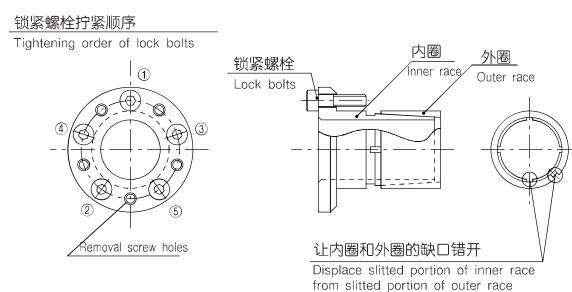

图5 /Fig. 5
3. 按涨紧套的外圈插入滚轮后,按照在轴上安装滚轮、涨紧套内圈的顺序进行装配。这时,请注意让涨紧套内圈和外圈的缺口错开(图5)。Insert the outer race of the clamping tool into the roller pinion, and then fit the roller pinion and the inner race of the clamping tool on the shaft in this order. At this time, shift the allocated positions of the inner race and outer race of the clamping tool (Fig. 5).
6. 调整后,将锁紧螺栓按照对角线顺序(图5、7)以规定拧紧扭矩的约1/4均等地拧紧,逐渐增加拧紧扭矩来拧紧螺栓。
After the adjustment, fasten the lock bolts diagonally(Figs.5 and 7) and uniformly starting at 25% or so of recommended tightening torque with gradual increase.